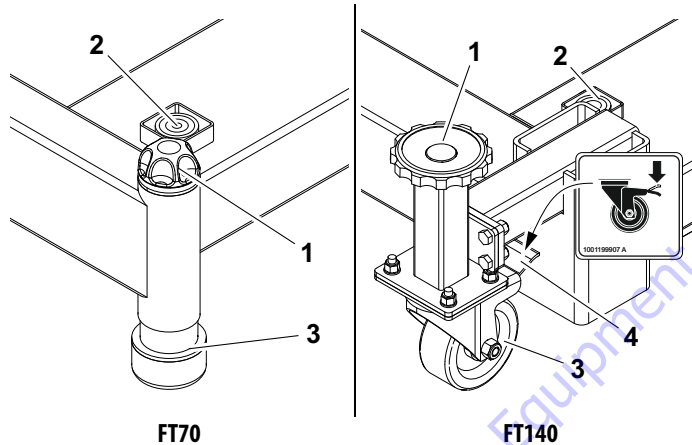

Figure 3-16. Base Leveling
- a. **FT70** - Push down on the base frame's step plate until the front swivel castor retracts and the base sits on the adjustable feet at the front of the machine (See Figure 3-16.).
- b. **FT140** - Set the brake on both front swivel caster wheels. (See Figure 3-16.).